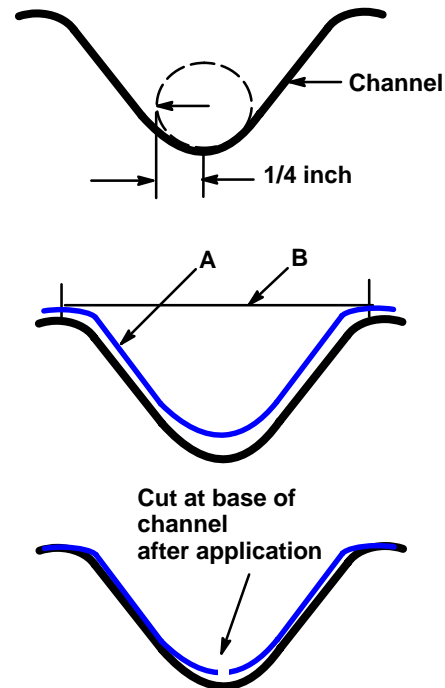

Figure 2. Applying in Channels
- b. Cut the film in the channel to avoid lifting of the film. See Figure 2. To check for the percent stretch, measure the travel distance through the channel (A) and divide by the length across the channel (B) (example: 1.8" / 1.0" = 180%).